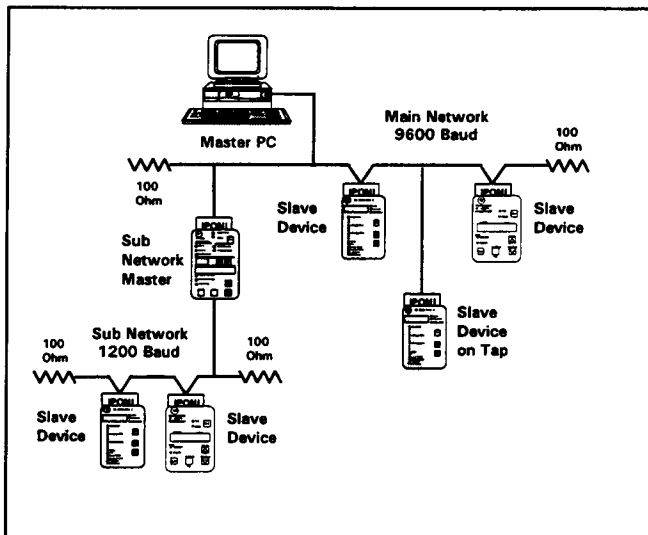

Figure 7 Network Interwiring
Note: All products on the IMPACC network must be set at the same baud rate. Exception: Sub networks may operate at a different baud rate than the main network (see figure 7).
2) Set the baud rate to 1200 bps if all of the products on the IMPACC network are set for 1200 bps, 9600 bps if all of the products on the IMPACC network are set for 9600 bps. Note: Main networks and sub networks can be set at different baud rates (see figure 7).
The following simplified rules apply given a system consists of a single daisy chained main cable link between master and slave devices and all slave nodes are I-PONIs (see figure 7). For more complex considerations including star configurations or systems containing old and new PONIs please refer to the IMPACC Wiring Specification or the APSC for wiring instructions and system capacity considerations. The IMPACC Wiring Spec is T.D. 17513 or FRED (Fax Retrieval of Engineering Documents) Document 17513.